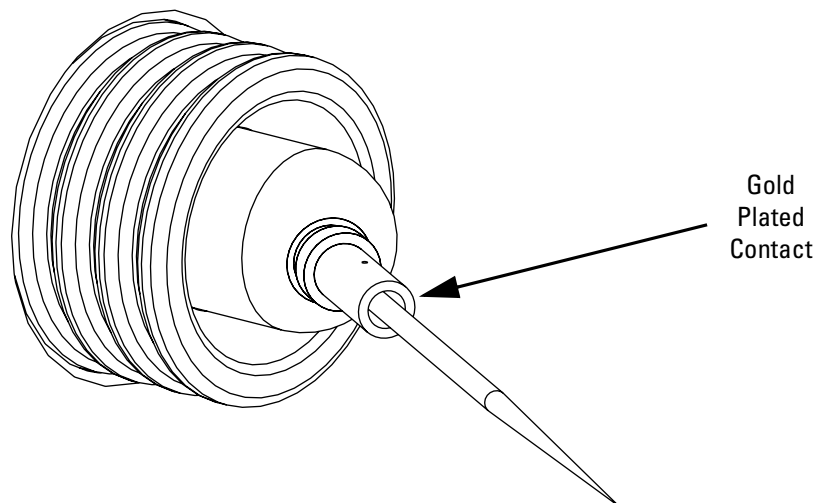

Figure 2-4. Corona needle, view from rear
- c. Using pliers, grasp the needle by the gold plated contact and pull the needle straight out of the socket. See Figure 2-4.